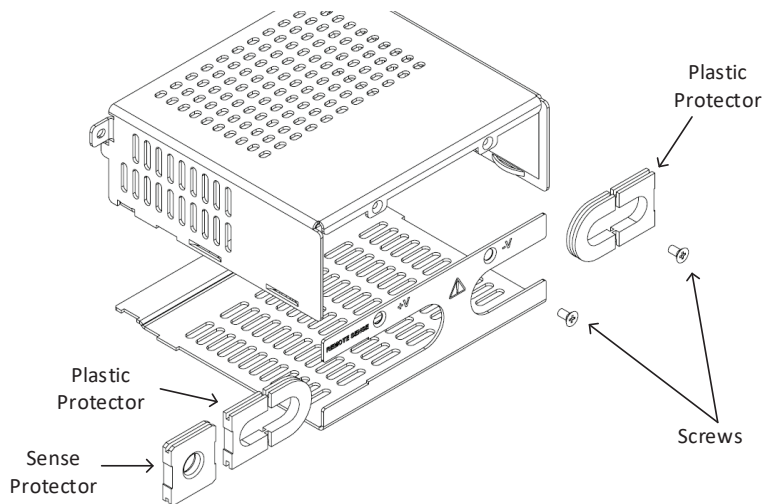

Figure 4-49: Disassembly of Output Protection (7.5kW)
3. Open the output protection assembly (supplied in the accessories kit) by unscrewing the screws in the rear side as shown in Figure 4-49. Remove both plastic protectors and sense protector.